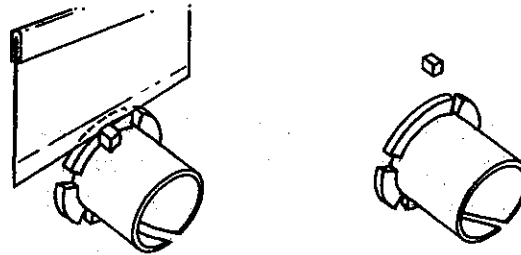

FIGURE 4
- b. Alternate method. Using a sharp razor blade or knife, carefully remove the key on the bushing as shown in Figure 4.